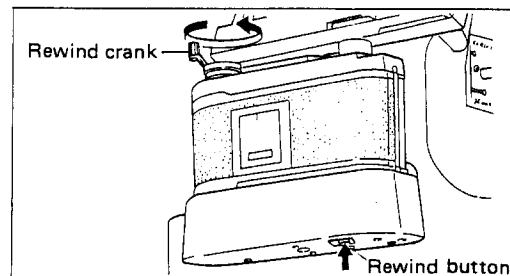

Fig. 47
- ① By finishing final exposure on the loaded film, end display LED begins to flicker. Then press the rewind button and rotate the rewind knob in the arrow direction by means of the flipped up crank to rewind the film. (Fig. 47)